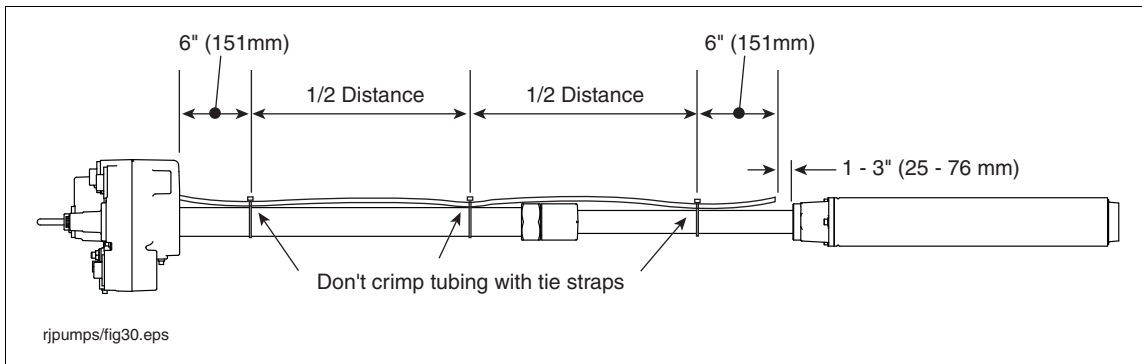

Figure 14. Attaching Return Line Tubing To Pump
9. Secure the siphon return line tubing to the column pipe with tie straps. Locate the tie straps approximately 6 inches (152 mm) from manifold, 6 inches from discharge head and in the middle of the tubing (see Figure 14).